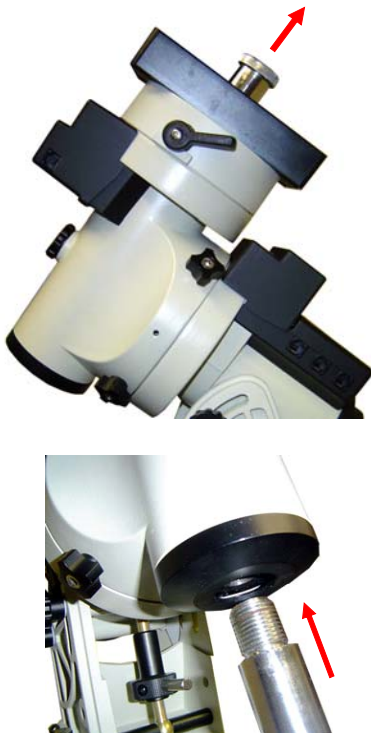

Figure 12
4. **Attach counterweight (CW) shaft:** Unscrew the CW shaft from the top of the mount (Figure 12 top) and thread it into the opening of the DEC axis (Figure 12 bottom).